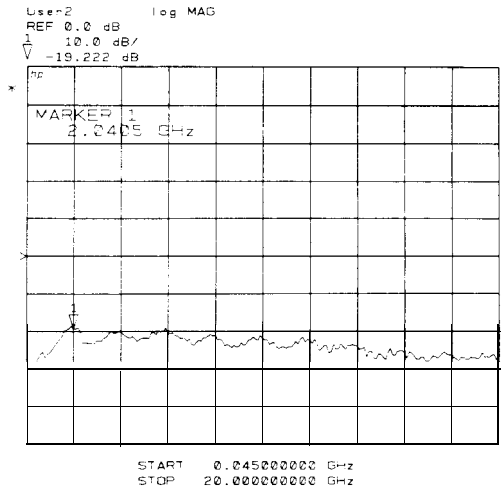
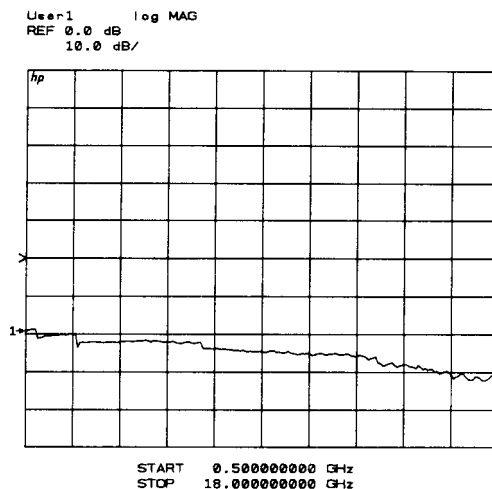

Figure 3-3. Typical Operator's Check CRT Power Level Trace
Figure 3-4. Typical Operator's Check CRT Power Level Trace
Plug in and turn on the test set (it should not be connected to any other instrument or device now). The line LED should light immediately and the active LED should light in about two seconds. Those indications mean that the instrument has passed its self-test. Turn off the test set and connect it to the HP8510 system as shown in Figure 3-3. Turn on all of the system instruments, network analyzer last. Let the instruments complete their self-tests.
- b. **HP 8350B** systems: press **[SWEEP TIME] [2] [0] [0] [k/m]** to set the sweep time to 200 ms. In narrow band systems, the level of the frequency band generated should match the levels shown in Figure 3-3 for a given frequency.
The b, and b₂ traces should resemble Figure 3-3. The a, and a₂ traces should resemble Figure 3-4.
5. Press PARAMETER [MENU] [USER 4 b1] [REDEFINE PARAMETER] [DRIVE] [PORT 2] [PHASELOCK] [a2] [REDEFINE DONE] to observe the b1 thru power level trace. The trace should resemble Figure 3-4.
6. Leave the thru connection of step 4 connected. Press PARAMETER [MENU] [USER 2 b₂] [REDEFINE PARAMETER] [DRIVE] [PORT 1] [PHASELOCK] [a1] [REDEFINE DONE] to observe the b2 power level trace. The trace should resemble Figure 3-4.
3. Press [USER 4 b1] to observe the b1 power level trace. The trace should resemble Figure 3-3.
5. Press PARAMETER [MENU] [USER 2 b2] [REDEFINE PARAMETER] [DRIVE] [PORT 1] [PHASELOCK] [a1] [REDEFINE DONE] to observe the b2 power level trace. The trace should resemble Figure 3-4.